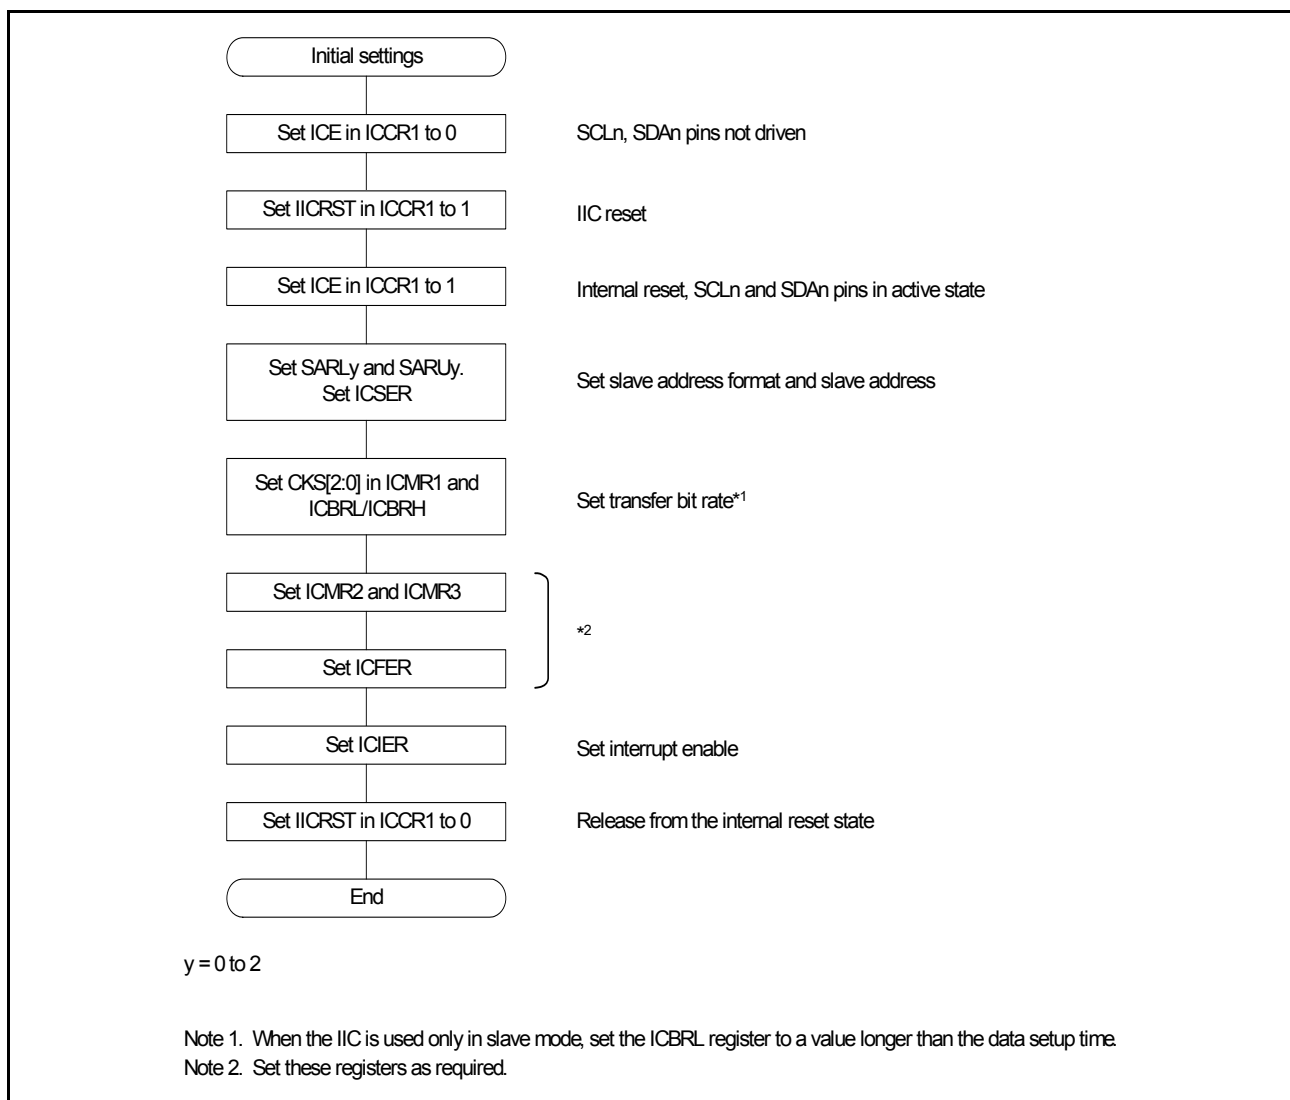

Figure 26.5 Example IIC initialization flow
Before starting data transmission or reception, initialize the IIC using the procedure shown in Figure 26.5.
4. Set the SARLy, SARUy, ICSEr, ICMR1, ICBRH, and ICBRL registers (y = 0 to 2), and set the other registers as necessary. For initial settings of the IIC, see Figure 26.5.